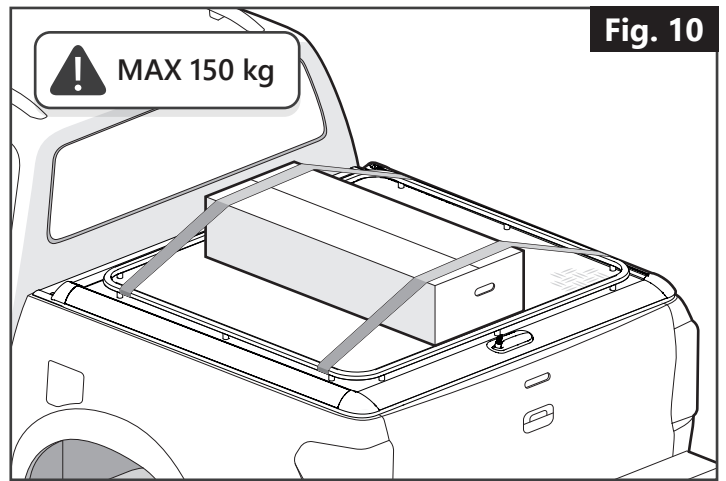

Fig. 10
- Mountain Top Style models with handrails fitted, can hold cargo loads up to 150 kg. **(Fig. 10)**